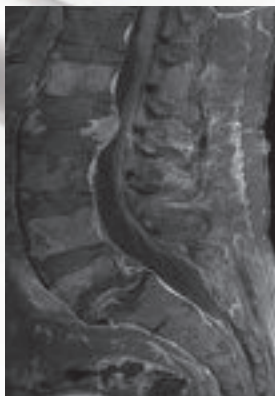

Figure 2: MRI Scan
- Imaging revealed lesions at the L1, L2, L3, L4 and L5 vertebral bodies. (Figure 2)